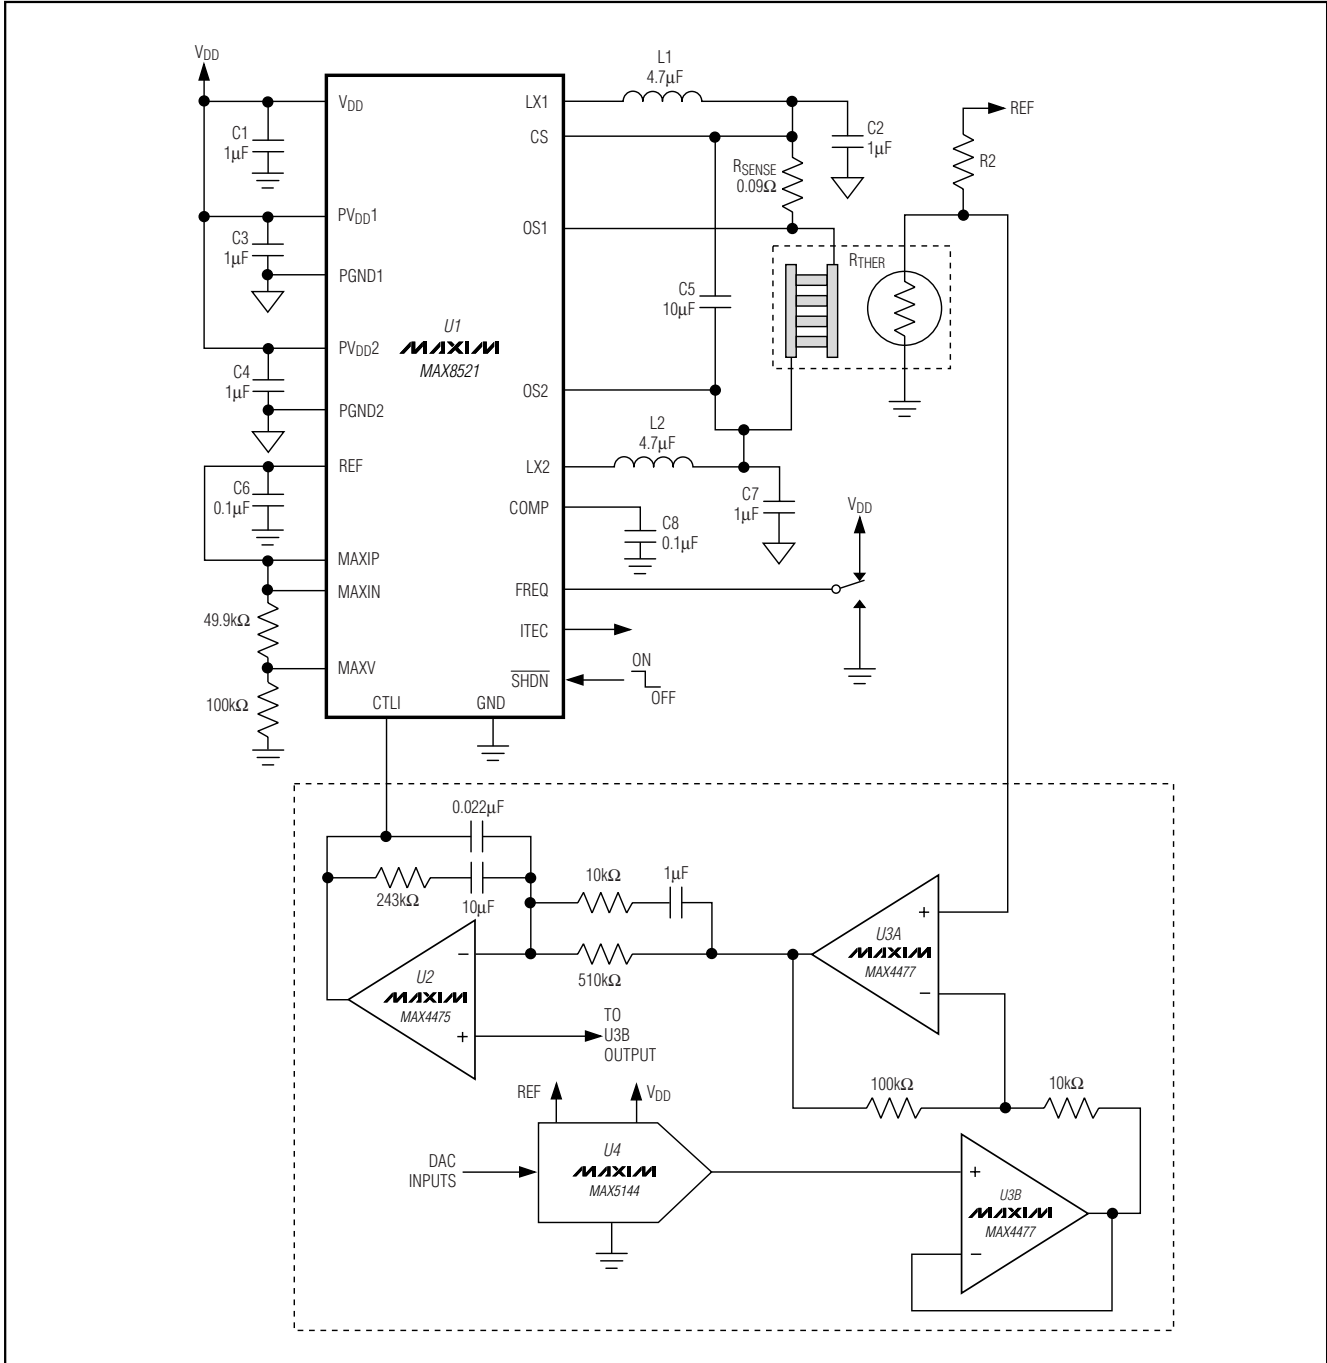

Figure 1. MAX8521 Typical Application Circuit
($V_{DD} = 5V$, circuit of Figure 1, $T_A = +25^\circ C$, unless otherwise noted)
($V_{DD} = 5V$, circuit of Figure 1, $T_A = +25^\circ C$ unless otherwise noted)
(V_{DD} = 5V, circuit of Figure 1, T_A = +25°C unless otherwise noted)
The MAX8520/MAX8521 TEC drivers consist of two switching buck regulators that operate together to directly control the TEC current. This configuration creates a differential voltage across the TEC, allowing bidirectional TEC current for controlled cooling and heating. Controlled cooling and heating allow accurate TEC temperature control to within $\pm 0.01^\circ\text{C}$. The voltage at CTLI directly sets the TEC current. An external thermal-control loop is typically used to drive CTLI. Figures 1 and 2 show examples of the thermal control-loop circuit.
Table 1. TEC Connection for Figure 1
The MAX8520/MAX8521 include an on-chip voltage reference. The 1.50V reference is accurate to 1% over temperature. Bypass REF with 0.1 μF to GND. REF can be used to bias an external thermistor for temperature sensing as shown in Figures 1 and 2.
The common-mode filter capacitors (C2 and C7 of Figure 1) are used as filter capacitors to ground for each output. The output ripple voltage depends on the capacitance, the ESR of these capacitors, and the inductor ripple current. Ceramic capacitors are recommended for their low ESR and impedance at high frequency.
The differential-mode filter capacitor (C5 in Figure 1) is used to bypass differential ripple current through the TEC as the result of unequal duty cycle of each output. This happens when the TEC current is not at zero. As TEC current increases from zero, both outputs move away from the 50% duty-cycle point complementarily. The common-mode ripple decreases, but the differential ripple does not cancel perfectly, and there is a resulting differential ripple. The maximum value happens when one output is at 75% duty cycle and the other is at 25% duty cycle. At this operating point, the differential ripple is equal to 1/2 of the maximum common-mode ripple. The TEC ripple current determines the TEC performance, because the maximum temperature differential that can be created between the terminals of the TEC depends on the ratio of ripple current and DC current. The lower the ripple current, the closer to the ideal maximum. The differential-mode capacitor provides a low-impedance path for the ripple current to flow, so that the TEC ripple current is greatly reduced. The TEC ripple current can then be calculated as follows:
There are numerous ways to implement the thermal loop. Figures 1 and 2 show designs that employ precision op amps, along with a DAC or potentiometer to set the control temperature. The loop may also be implemented digitally, using a precision A/D to read the thermistor or other temperature sensor, a microcontroller to implement the control algorithm, and a DAC (or filtered-PWM signal) to send the appropriate signal to the MAX8520/MAX8521 CTLI input. Regardless of the form taken by the thermal-control circuitry, all designs are similar in that they read temperature, compare it to a set-point signal, and then send an error-correcting signal to the MAX8520/MAX8521 that moves the temperature in the appropriate direction.
6) To ensure high DC loop gain and minimum loop error, keep the board layout adjacent to the negative input pin of the integrator (U2 in Figure1) clean and free of moisture. Any contamination or leakage current into this node can act to lower the DC gain of the integrator, which can degrade the accuracy of the thermal loop. If space is available, it can also be helpful to surround the negative input node of the integrator with a grounded guard ring.